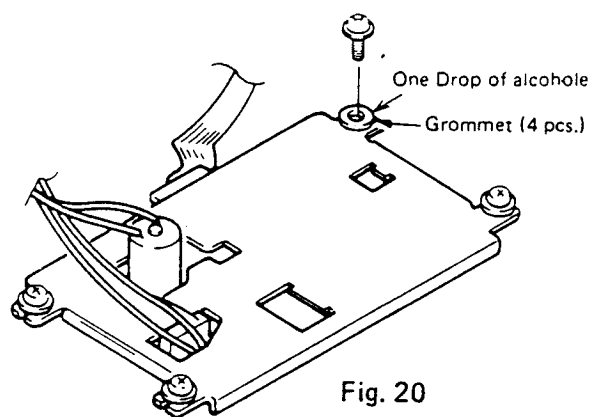

Fig. 20
(3) Precaution in replacing parts.
- Fully tighten the screws. If the screws are loose, the disc tracking performance may be degraded. (Fig. 20)